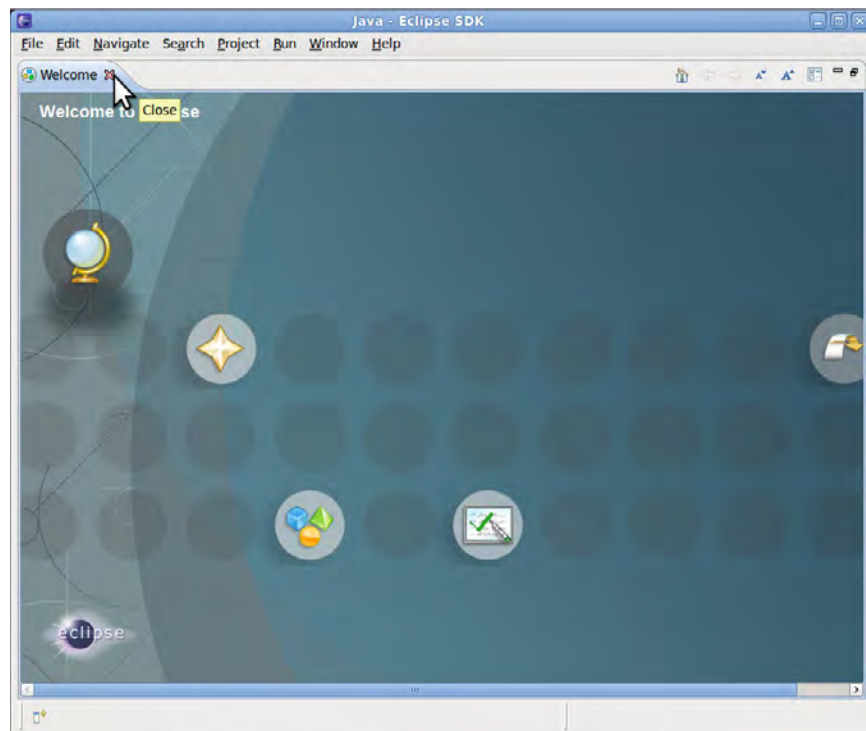

Figure 6-5. Closing the Eclipse welcome screen
The Eclipse welcome screen appears first (Figure 6-5). You can dismiss it and reveal the rest of the Eclipse IDE by clicking the close (X) button on the right of the welcome screen's tab at the top left.